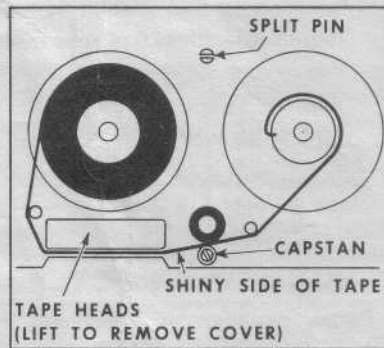

FIG.1
Lift panel covering reels. Remove metal sleeve from capstan (Fig 1) to change speed to $1\frac{7}{8}$ IPS. Replace metal sleeve on capstan for $3\frac{3}{4}$ IPS. The metal sleeve is removed by simply pulling straight up. The split-pin located above the reels (Fig. 1) is for storing the metal sleeve when recording at $1\frac{7}{8}$ IPS.
5. It is a good practice to clean the tape heads occasionally with "Tape head cleaner" available at your dealer (see Fig 1).